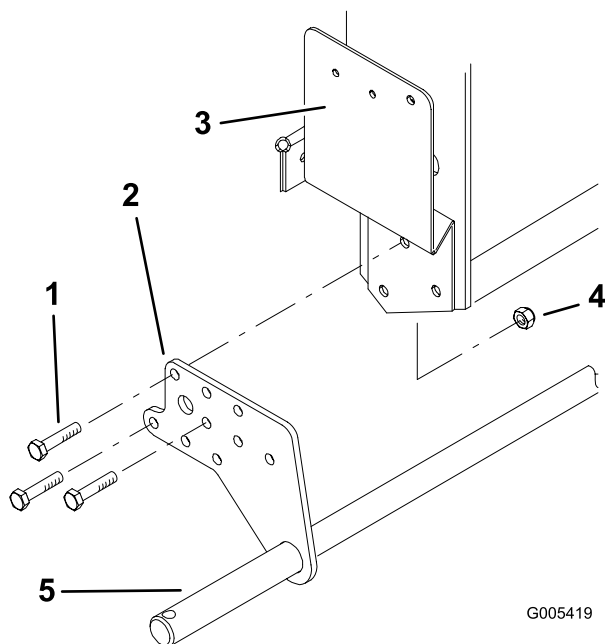

Figure 4
2. Remove the 6 bolts, spacers, and nuts securing the bottom of the two pulley guards on both sides of the frame (3 bolts and nuts on each side) (Figure 4). Save all 6 of the bolts and discard the locknuts.
3. Using the 6 bolts (3/8 x 1-3/8 inches) and locknuts (3/8 inch) supplied with the sulky, install the axle as illustrated in Figure 4.